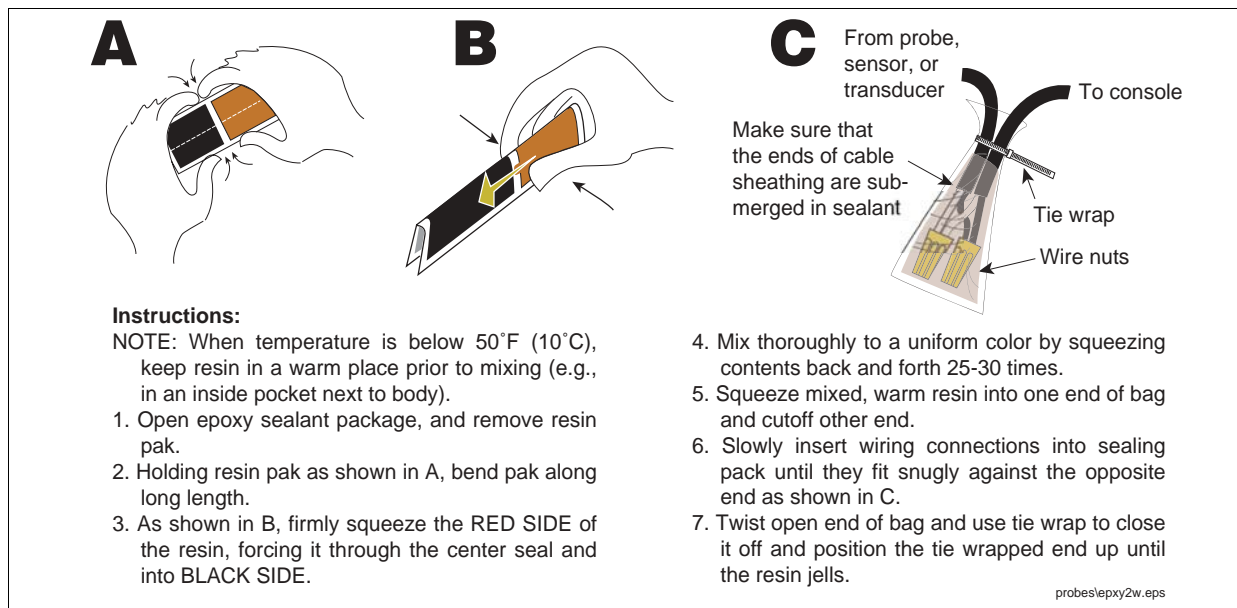

Figure 5. Epoxy Sealing Probe Field Connections
4. Seal wire nuts with epoxy sealant following the instructions in Figure 5.